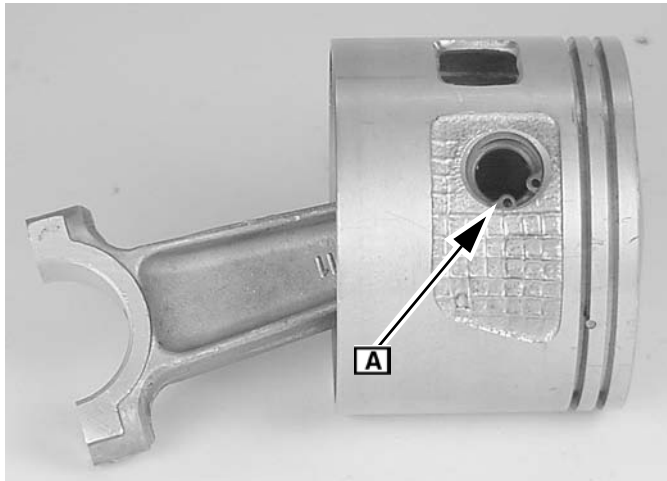

Fig. 59
3. Install other piston pin retainer (**A** Figure 59).